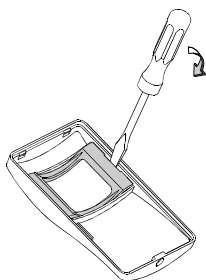

Figure 3. Removing the Lens Holder
To change a lens: insert a small screwdriver into the lens holder side locking tab and rotate the screwdriver handle downward. The lens holder will release (Fig. 3).
- Remove the front cover (Fig. 3). Mount the base (equipped with the printed circuit board) in the location and height selected for optimum coverage. For surface mounting use the two knockouts at the back of the base; for corner mounting use the knockouts on the angled sides. The unit must be fastened firmly to the mounting surface to avoid possible vibrations.